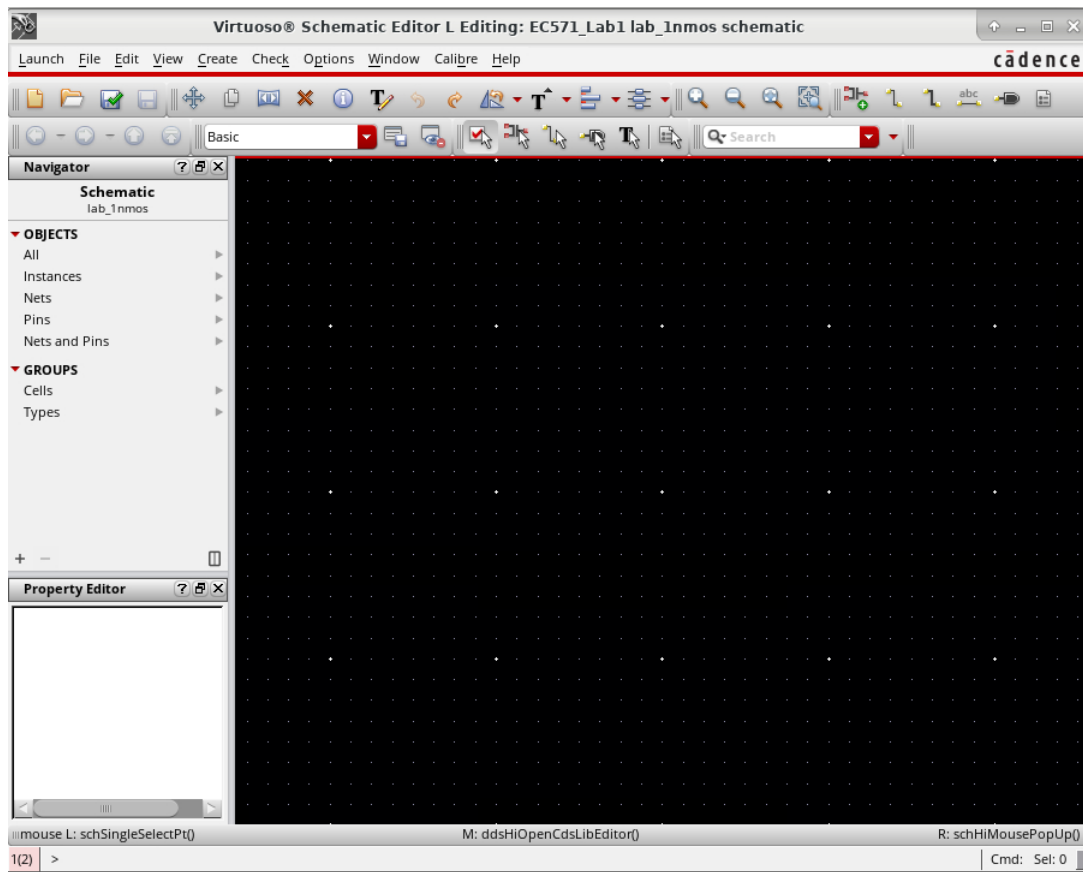

Figure 9: “Virtuoso Schematic Editor” window
2. A Warning will appear, click on “Yes”, and the “Virtuoso Schematic Editor” window will be opened (Figure 9). This is the the window in which you will be creating and modifying the schematics of the circuits. Don’t worry about the Warning at this point.